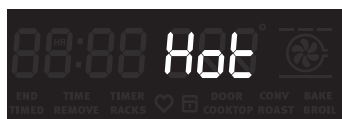
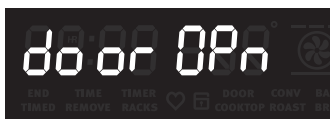

Fig. 72 Oven too hot for door to unlock
Fig. 73 Door opens when oven cools enough
2. If the self-clean cycle has heated the oven to a high enough temperature, **Hot** (Figure 72) will appear in the display. Allow enough time for the oven to cool and for the **door OPn** message to display (Figure 73). When this message turns OFF the oven door may be opened.